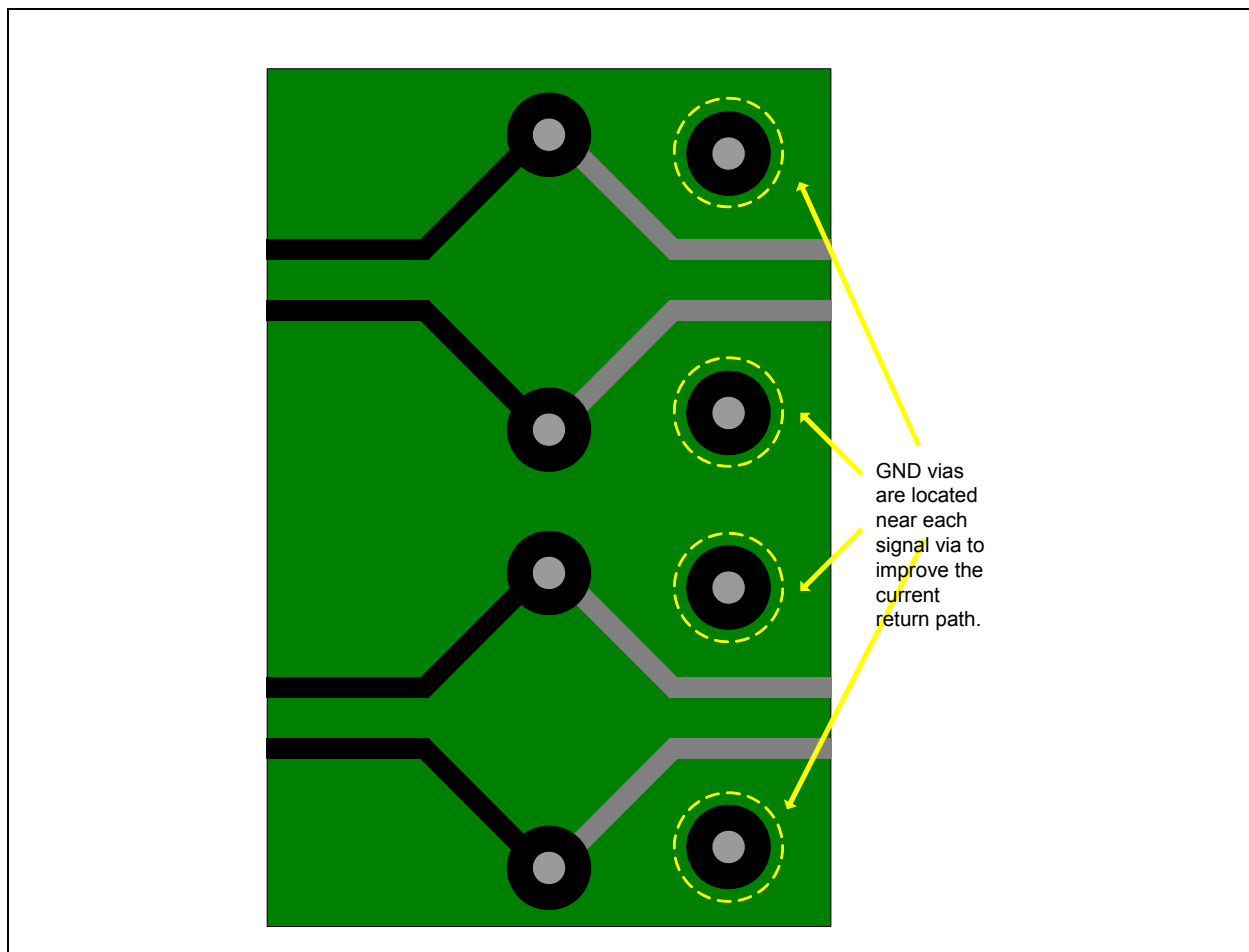
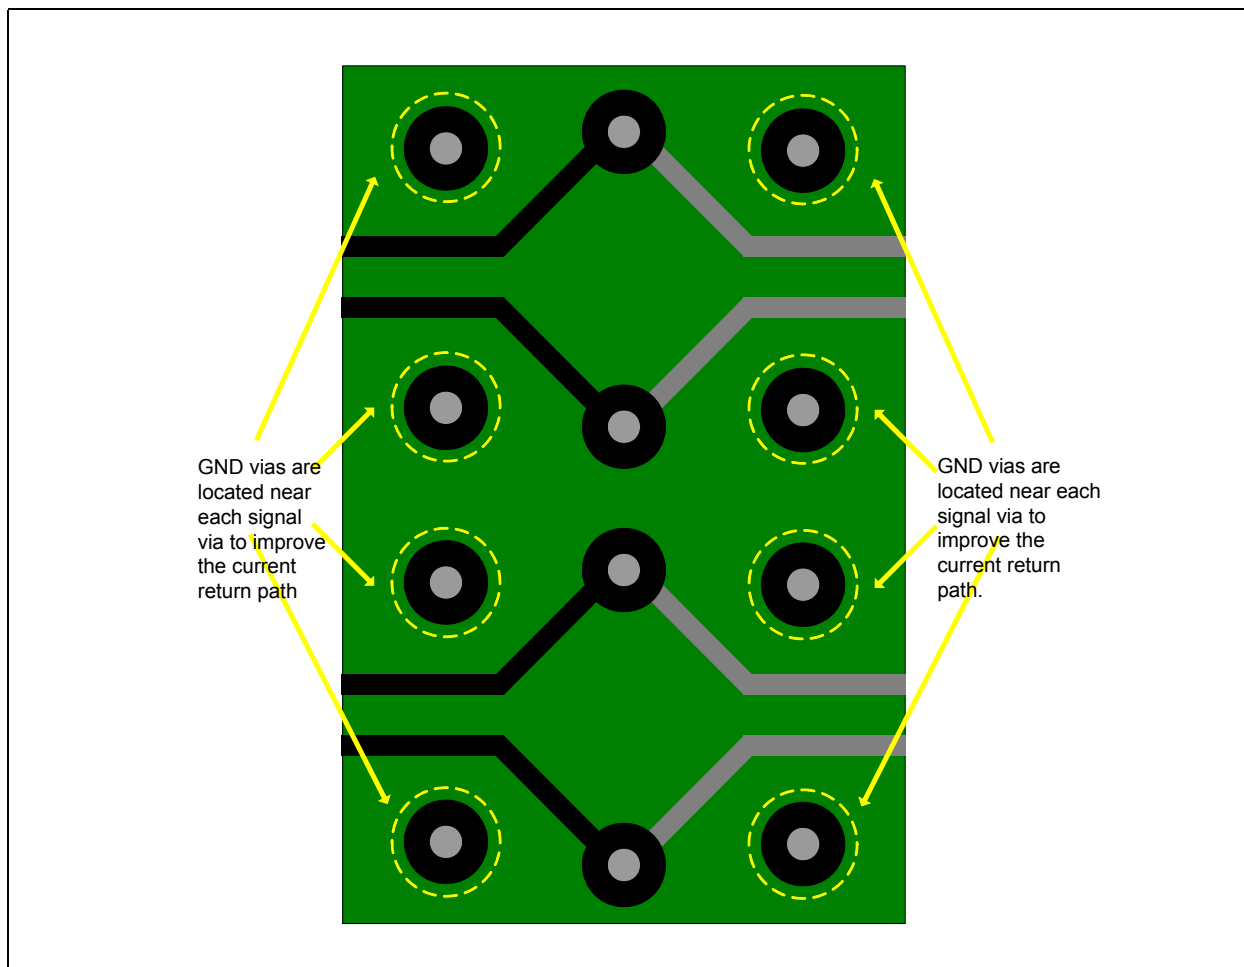

Figure 9-12 Good Ground Vias for Signal Return Paths – One Return Path Via Per Signal Via
Figure 9-13 Better Ground Vias for Signal Return Paths – Two Return Path Vias Per Signal Via (Less Reflection)
- Each time differential traces make a layer transition (pass through a pair of signal vias), there must be at least one ground via located near each signal via. Two ground vias near each signal via is better. See Figure 9-12 and Figure 9-13.